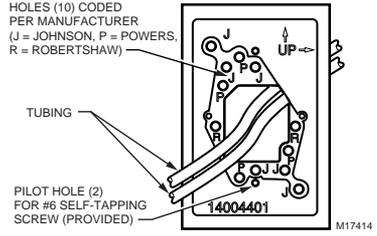

Fig. 4. Adapter Plate Installation.
4. To remove thermostat cover, drive screws clockwise until cover is free. To remove thermostat from backplate, spread retaining clips (Fig. 4) and separate.
1. Feed tubes through large adapter plate hole (see Fig. 4).
- NOTE: If any wall screw holes coincide with noncoded adapter plate holes (see Fig. 4), proceed as follows. (If not, continue with Step 4.):